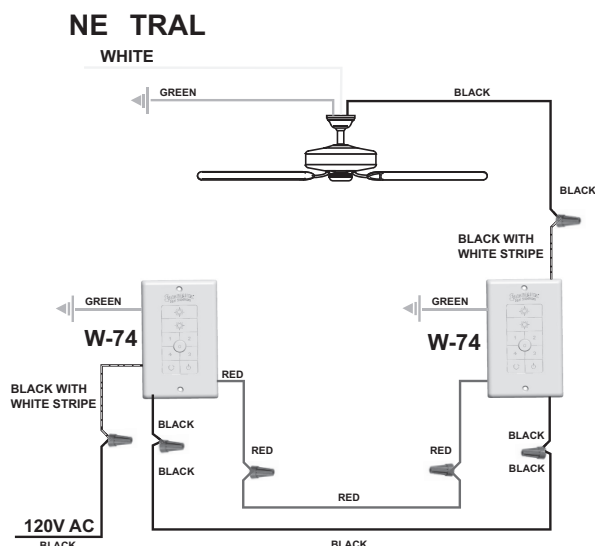

Figure 4
5. Remove the wire from the common terminal of the three-way switch. Connect this wire to the remaining black/white striped wire on the W-74 control. Secure this splice with a wire nut. Figure 4